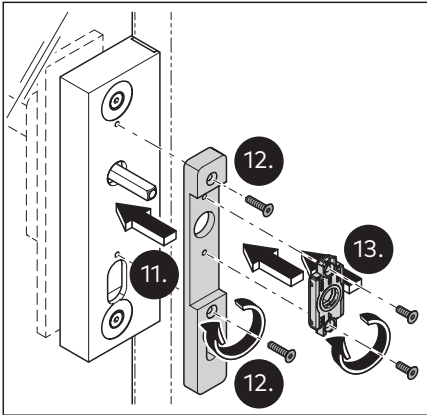

Fig. 35 Fix the base plate onto the lock mortise
11. Put the base plate on the lock mortise (Fig. 35).